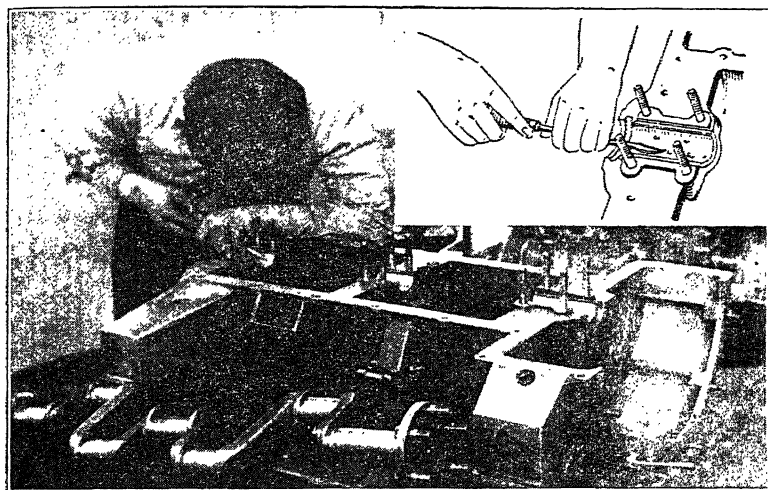

Fig. 23. Scraping Main Bearings
**Fitting Main Bearings by Scraping.** Although many shops are using the line-reaming or line-boring machines for fitting main bearings, there are still many jobs which are best cared for by hand scraping, as illustrated in Fig. 23. The picture shows a mechanic scraping away the high point secured from the impression. He is working on a bearing of a truck engine. The inset, Fig. 23, shows